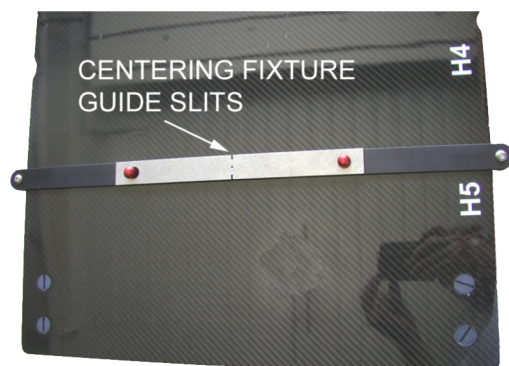

Fig. 71
2. Use the CT Laser alignment system to define the center of the CT Overlay on the head of the Overlay. Use the gripping eccentrics (see Fig. 68) to center the Overlay on the beam. (Fig. 71).